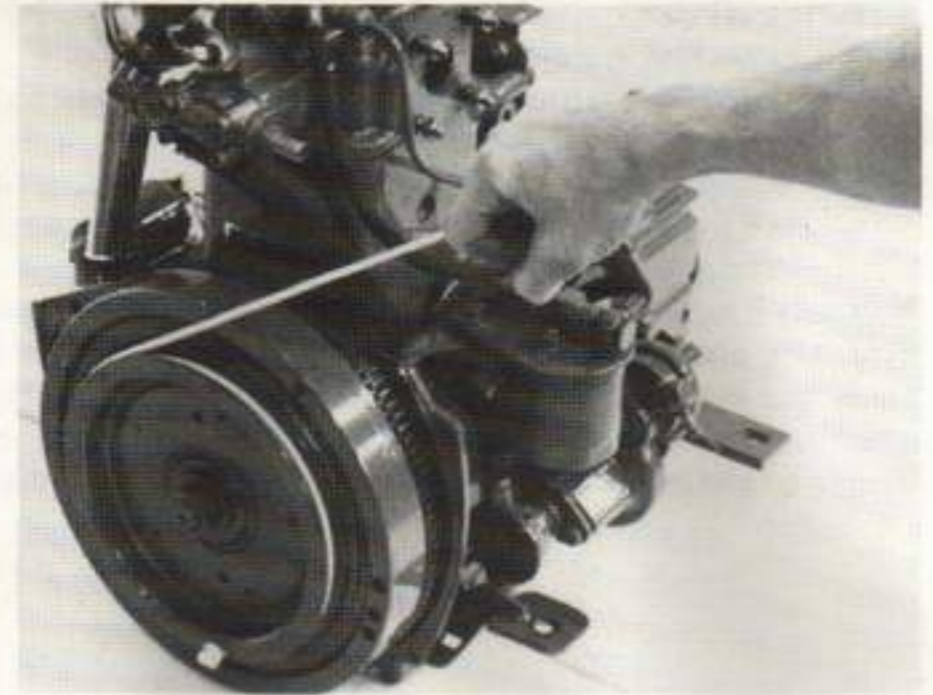
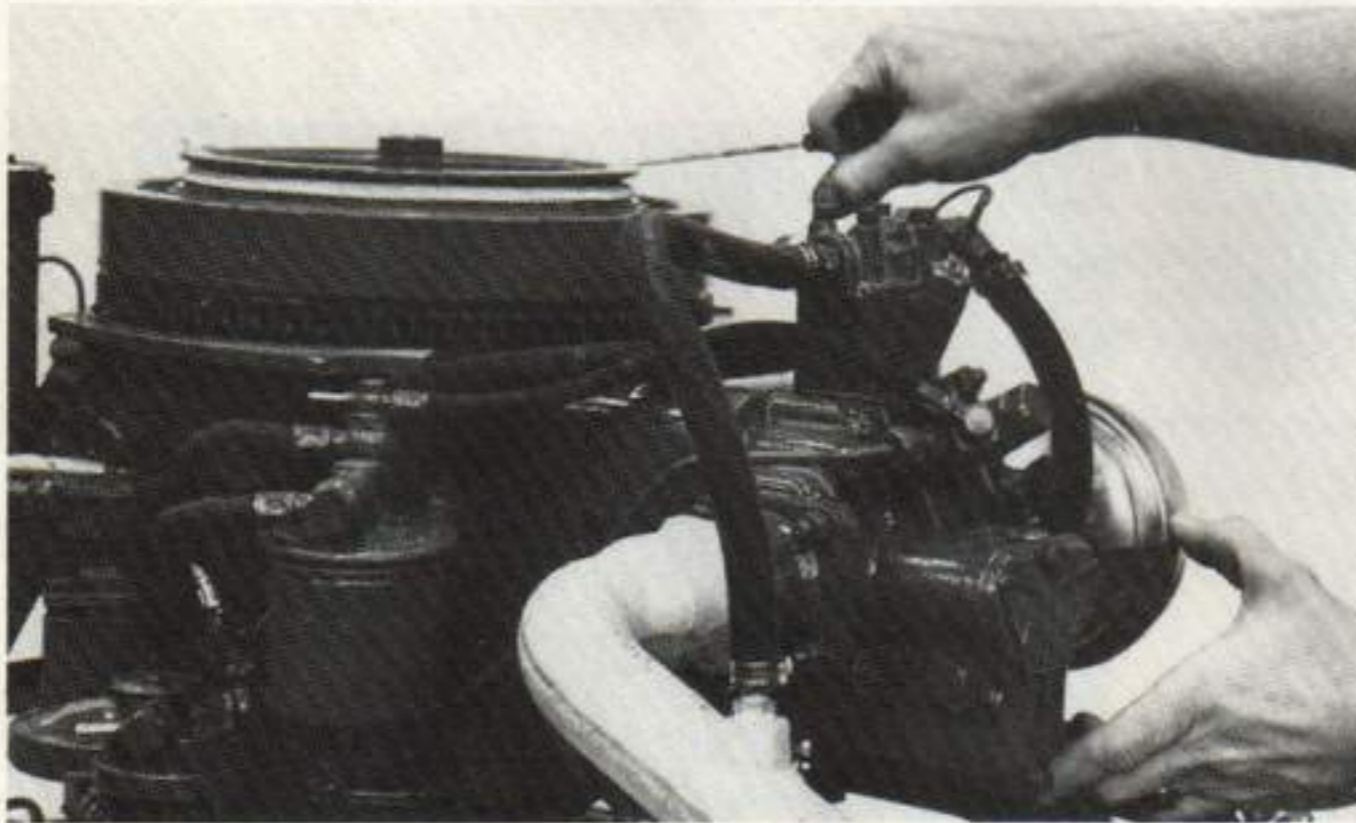

Fig. 11.
Fig. 12.
4. Place starting rope knot in position in the notch in the flywheel and wind up the rope clockwise as far as possible. (See fig. 11 or fig. 12.)